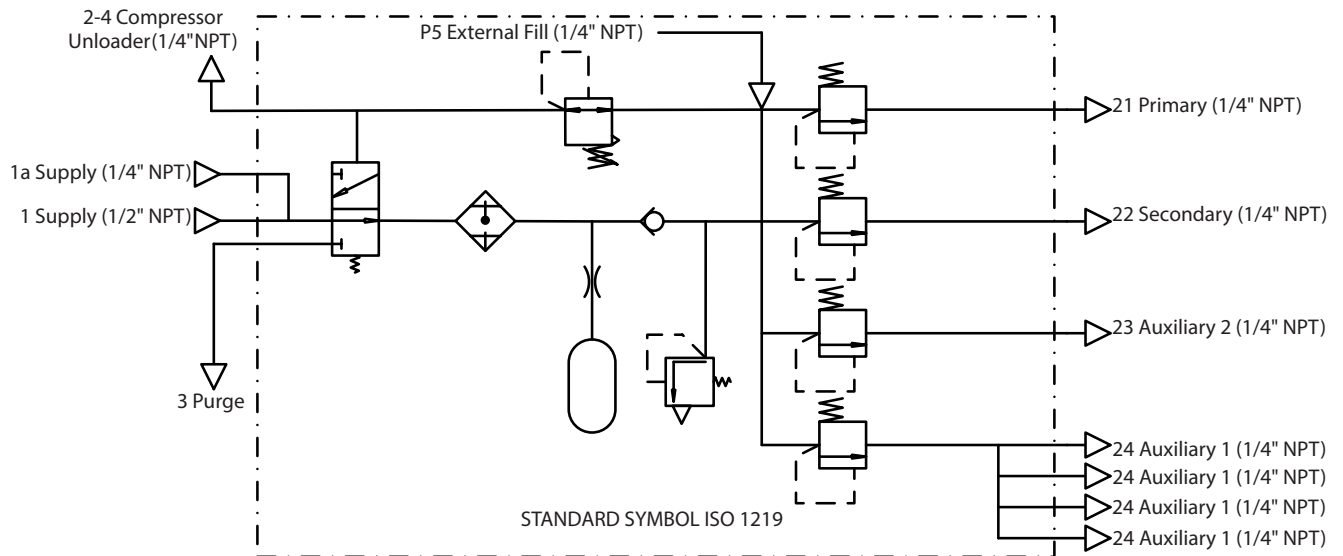
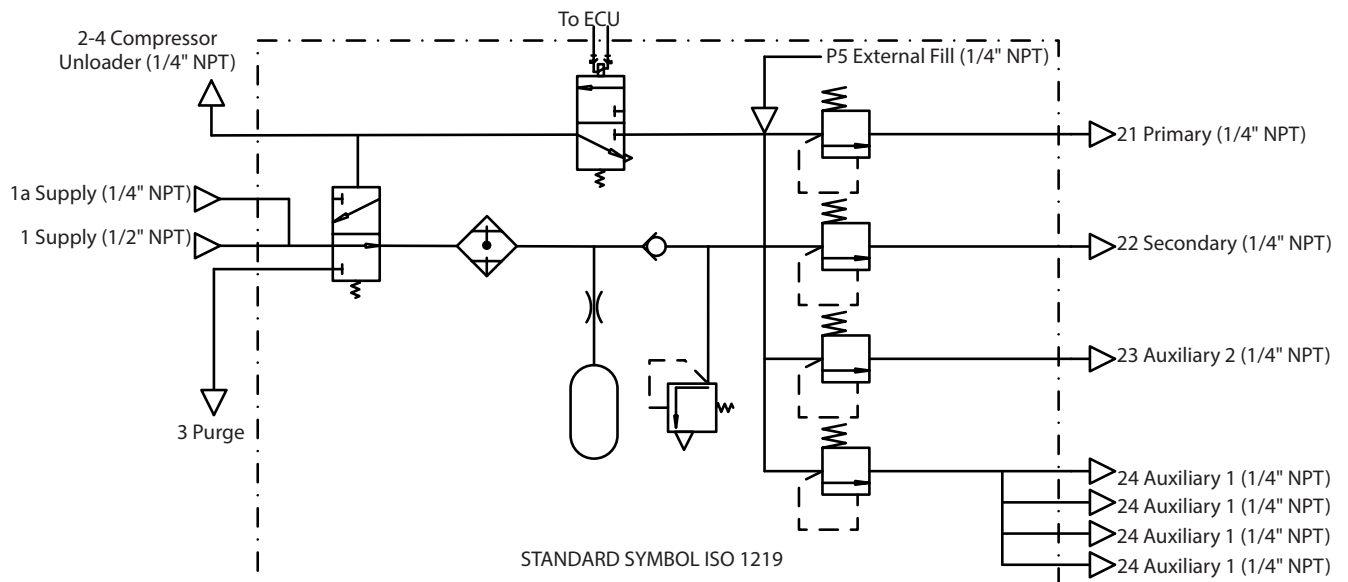

Figure 4 – Bendix® AD-HF® Air Dryer ISO Schematic
Figure 5 – Bendix® AD-HFi™ Air Dryer ISO Schematic
Figure 4 shows an ISO schematic diagram of how the AD-HF air dryer functions. Figure 5 shows an ISO schematic of how the AD-HFi air dryer functions.
A. Electric Power to the Dryer (*Refer to Figure 4*)